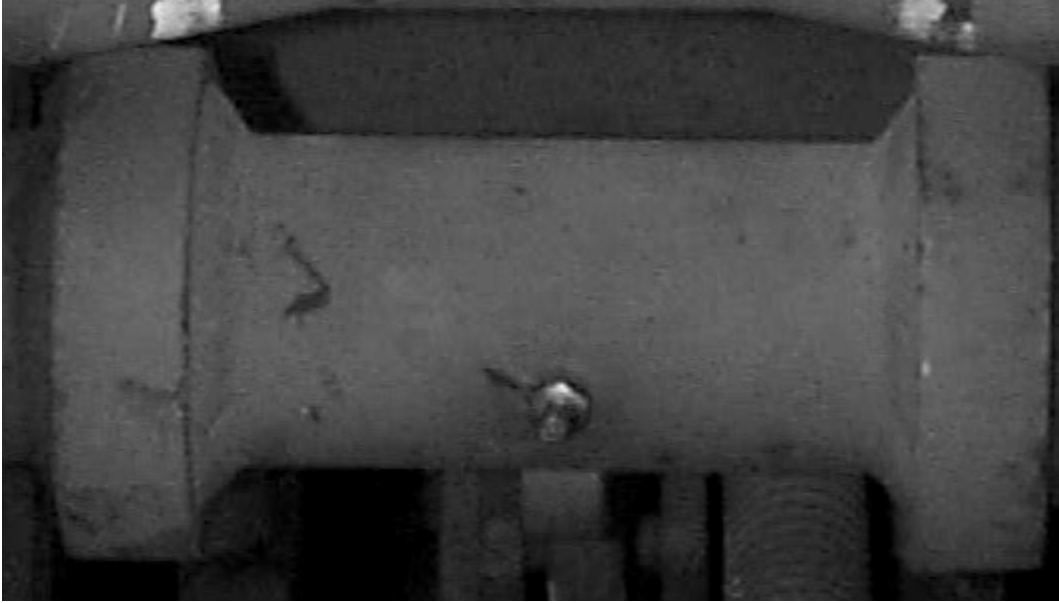

Figure 3 – Modification of Frame Lock
- b. Drill the frame lock (SQD 018) and fit the grease nipple so that it faces to the rear of the vehicle, as shown in Figure 3. There is no requirement for the nipple to be counter-sunk.